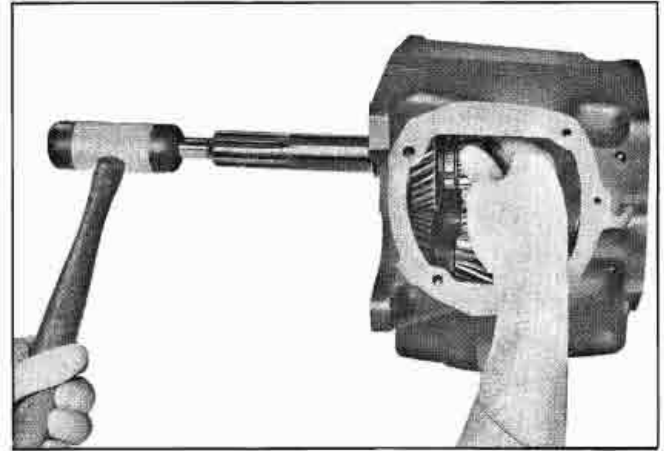

Fig. 7-36 Removing Clutch Gear and Bearing Assembly
12. Using soft hammer, tap front end of shaft, moving gear and bearing assembly into case. Remove through side opening (Fig. 7-36).